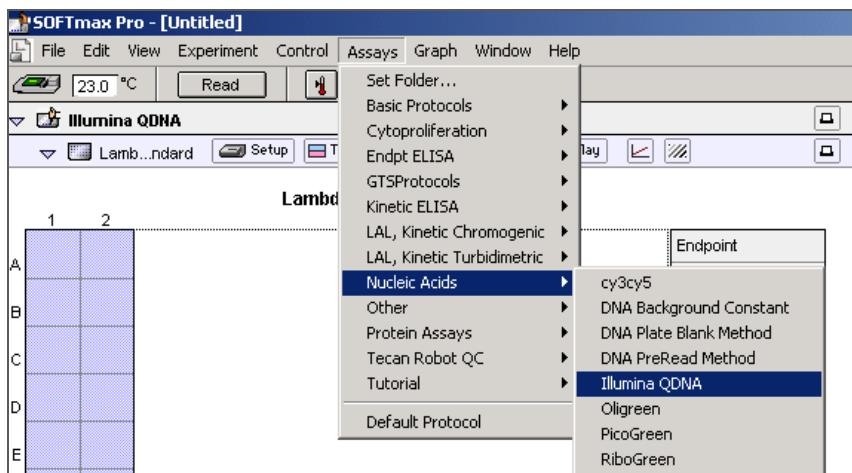

Figure 14 Load the PicoGreen Protocol in SoftMax Pro
4. Select **Assays | Nucleic Acids | Illumina QDNA** (Figure 14).